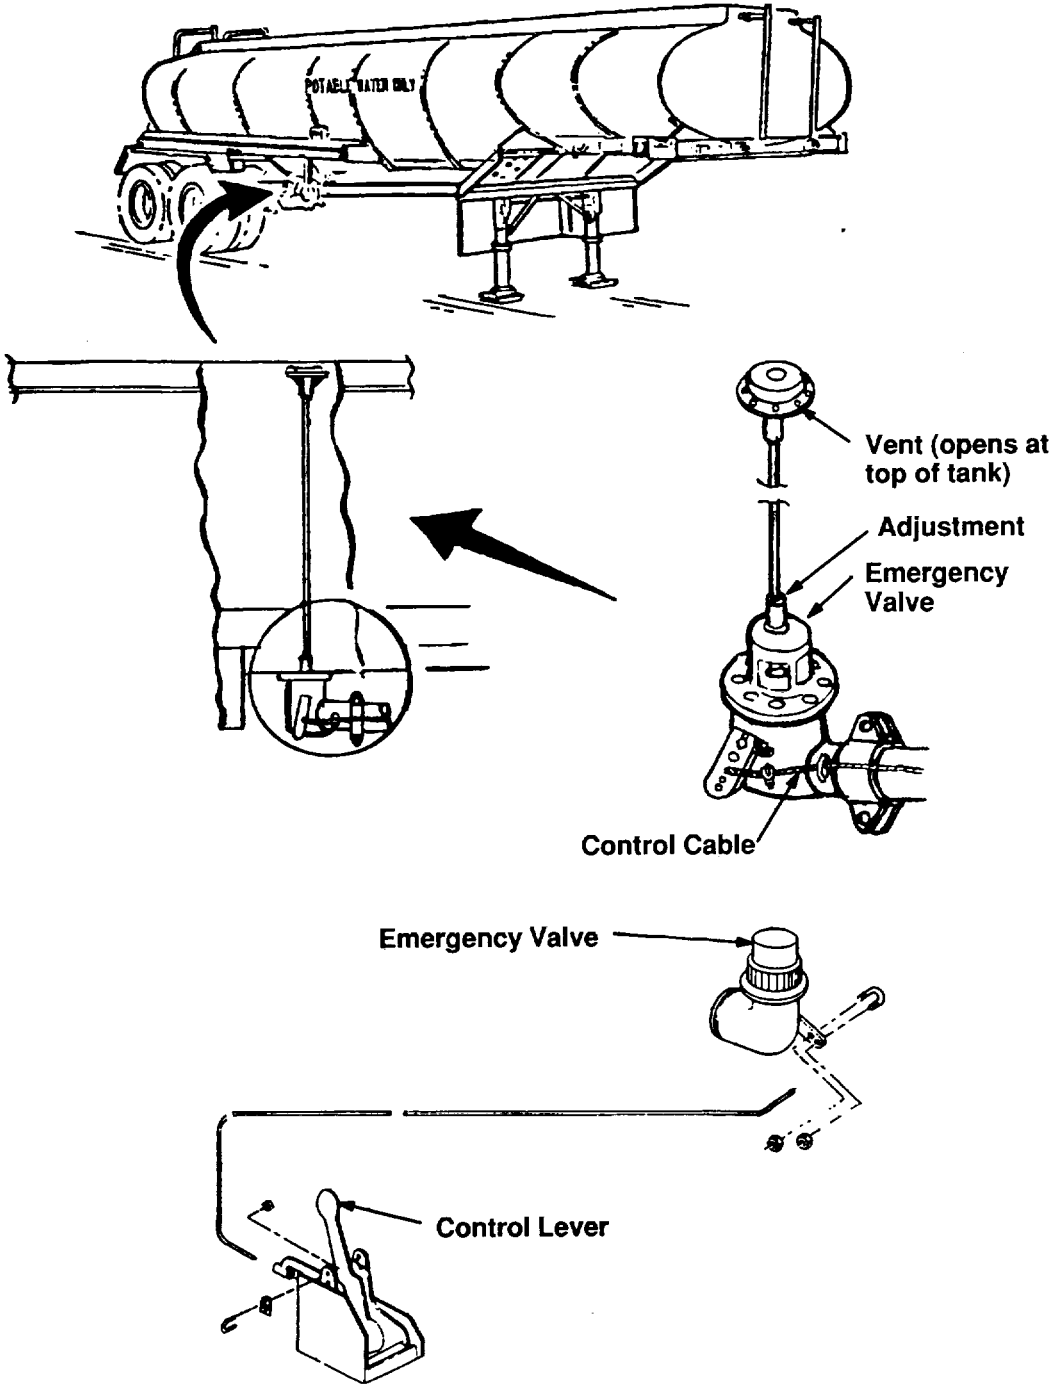

Figure 2-5. Emergency Valve Operation Mechanism
b. Emergency Valve Operation. The emergency valve controls the tank outlet, fig. 2-5. The emergency valve is mechanically operated by a lever in the piping control assembly. Engaging the lever opens the emergency valve to permit water flow to/from the tank sump. At the same time, the vent at the top of the tank opens to relieve pressure/vacuum during loading/unloading.
(1) The emergency valve must be open for all loading/unloading operations except top loading.
(2) In an emergency, close the emergency valve by disengaging operator handle.
- 1. Open emergency valve that feeds water to all water outlets, fig. 2-5.